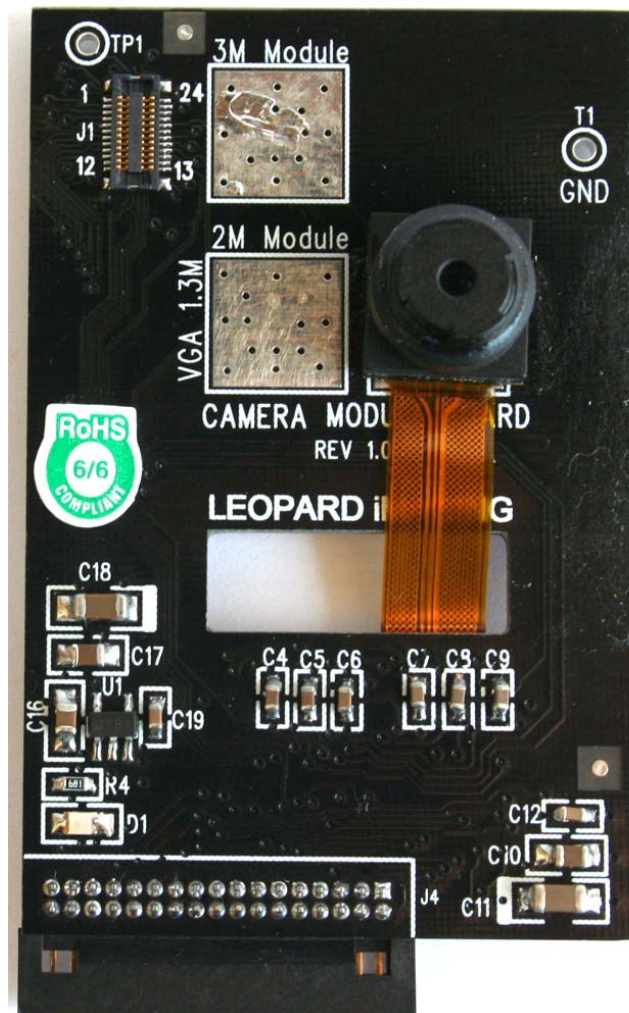

Figure 11. 5M Camera Board
1.3.5.4 5 Mega-pixel Camera Board, see Figure 11